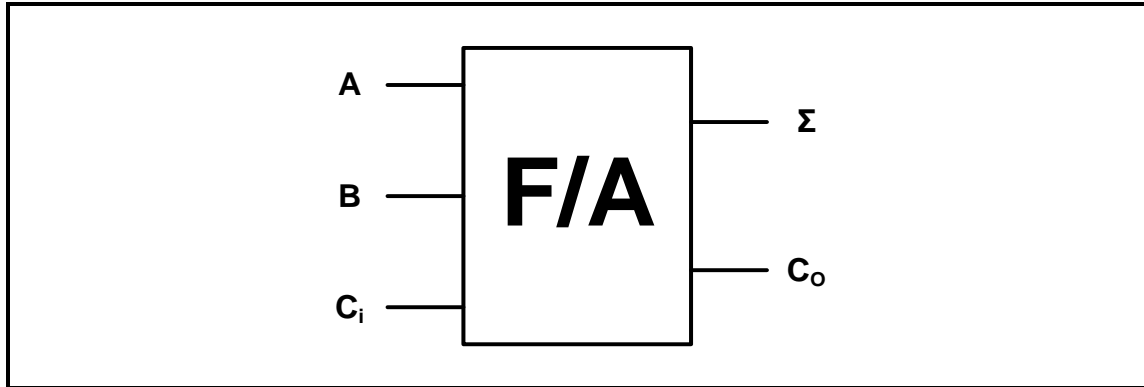

FIGURE 5.5
- 5.5 FIGURE 5.5 below represents the logic symbol of a full adder. Complete the logic circuit of the full adder using the information given on ANSWER SHEET 5.5.